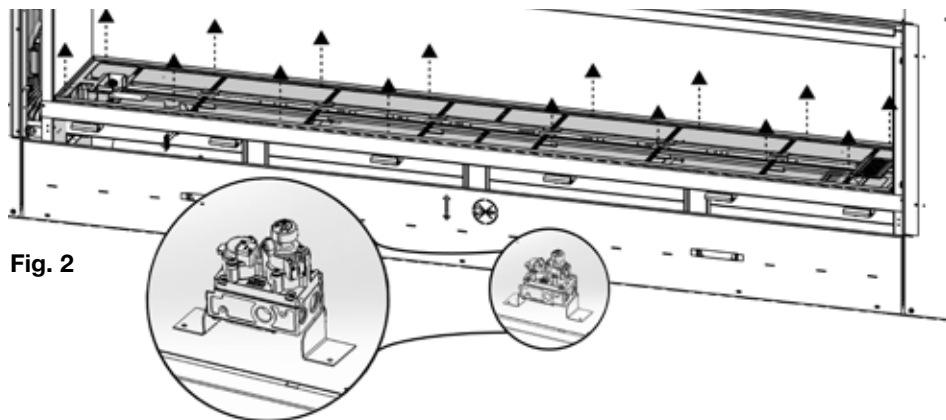

Fig. 2
- ☐ 3. Remove the screws that secure the entire burner assembly in place (the number varies by model) **(Fig. 2)**. Remove the air shutter adjustment rod. Set both aside.
- ☐ 5. Remove the two screws from the valve regulator and remove the regulator, replace with the one supplied **(Fig. 2)**.